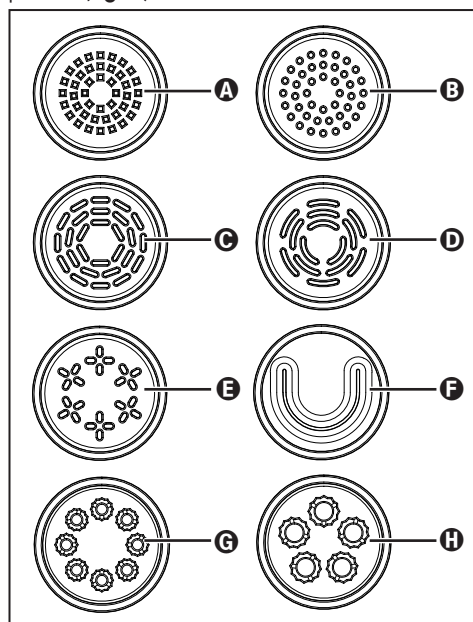

Fig. 2
8 different shaping discs **❽** are supplied with the product (fig. 2):